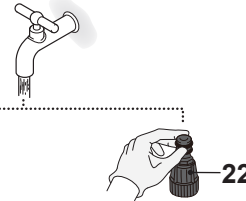

Fig. 41
- > Rinse the parts with clear water (Fig. 41).